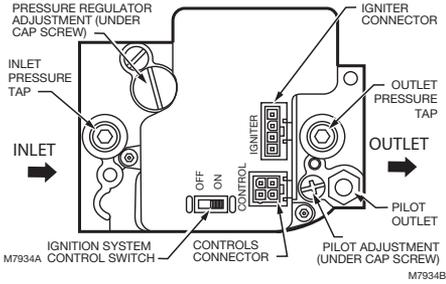

Fig. 6. Top view of ignition system control.
the installation includes the adapters and screws. If you use a wrench on the valve after the flanges are installed, use the wrench only on the flange, not on the control. See Fig. 6.
3. Unscrew the brass compression fitting from the pilot outlet as shown in Fig. 6.